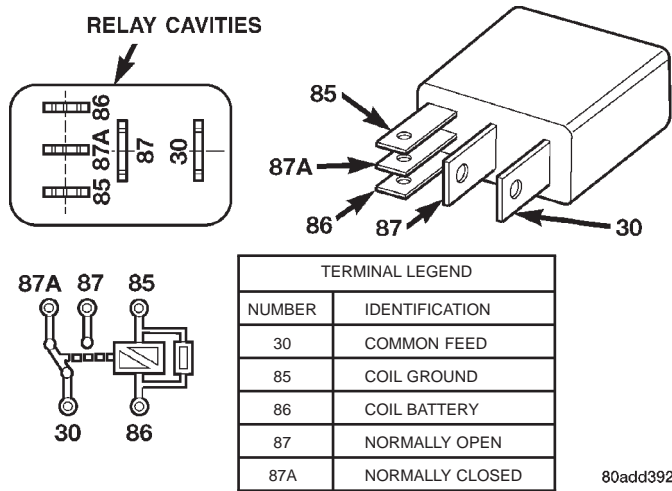

Fig. 11 Type-2 Relay
(15) If equipped with **type-2 relay** (Fig. 11), attach test leads from LCS adapter into PDC relay cavities number 30 and 87. For location of these cavities, refer to numbers stamped to bottom of relay (Fig. 11).